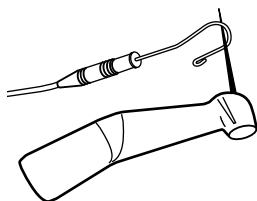

Fig. 7 Activating the Apex Locator with Lip Clip and File on the VDW 6.1 contra-angle
3. To turn on the apex locator, touch lip clip with the file for about 3 seconds. **Do not touch the stopper!** See Fig.7.